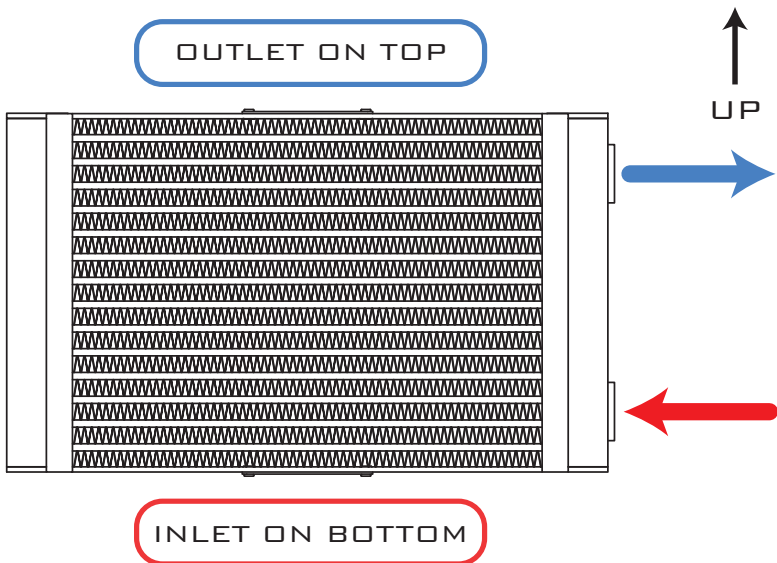

Figure 3 - Horizontal plumbing orientation
- The preferred plumbing orientations are shown in Figures 3 and 4.